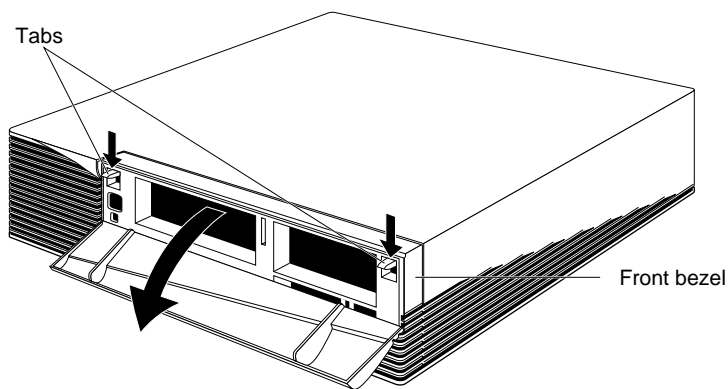

Figure 3-10 Removing the Front Bezel from the Indigo² Chassis
- Press down on the tabs on each side of the bezel, as shown in Figure 3-10.